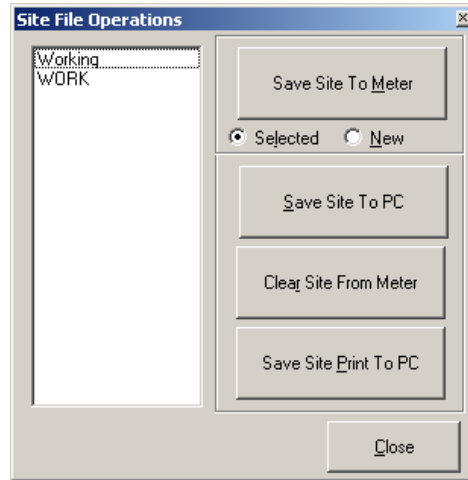

Figure 51: Site file operations window
3. Click on the [site files] button. The *site file operations* window, as shown in *Figure 51* below, opens.
1. Highlight the desired site in the left pane. (See *Figure 51* on *page 76*.)